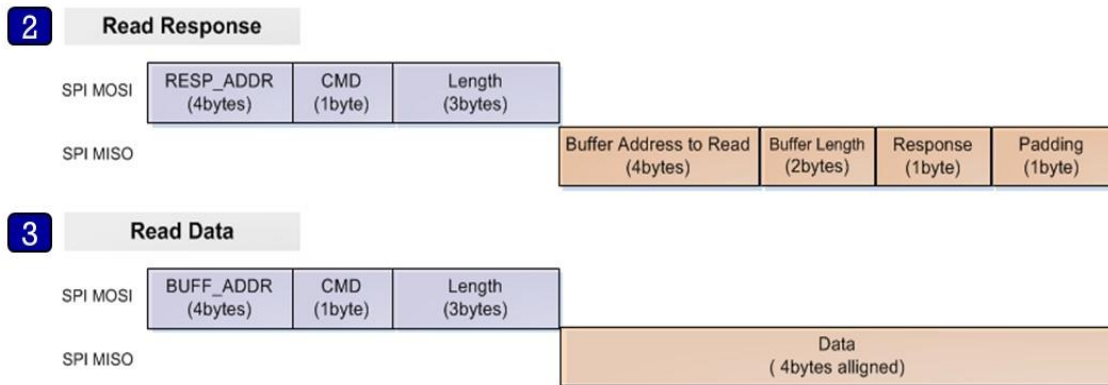

Figure 5. Read operation structure
2. The Host reads the response message from Response Command address (0x50080258, blue rectangle in Figure 5) and parses it using struct \_st\_host\_response (see Section 3.2.6).
3. The Host reads data from address (BUFF\_ADDR) which is received from Slave in the response message (green rectangle in Figure 5).